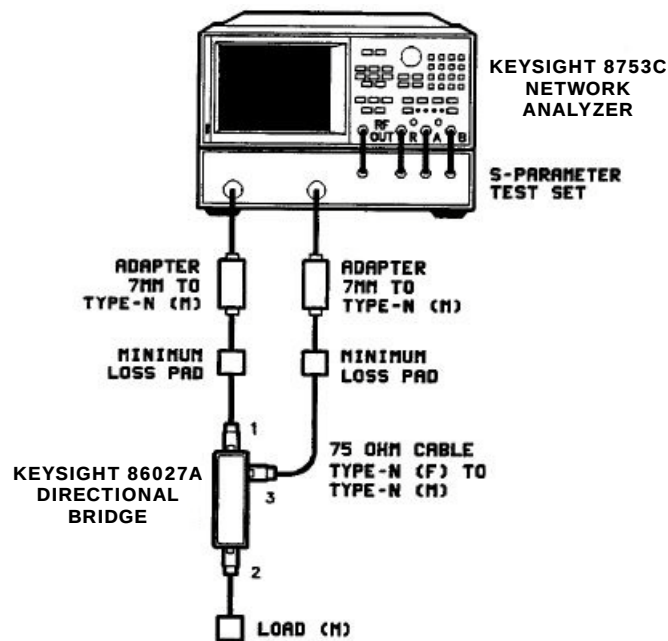

Figure 3-3 Equipment setup for coupling loss measurement
- 6** Connect the equipment as shown in Figure 3-3.